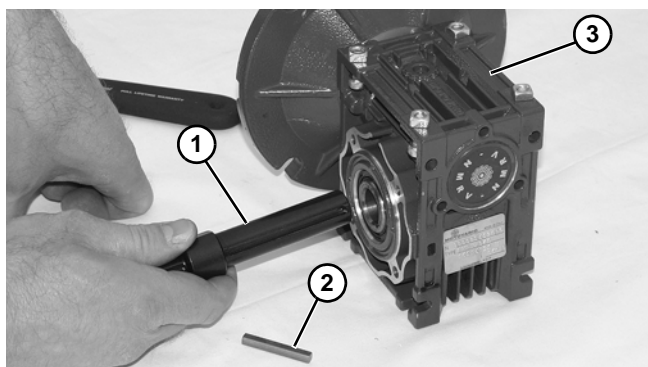

Figure 20
7. Remove driveshaft (Figure 20, item 1) and key (Figure 20, item 2).
8. Replace gear reducer (Figure 20, item 3).
10. Replace the original shaft components into new gear reducer (Figure 20).